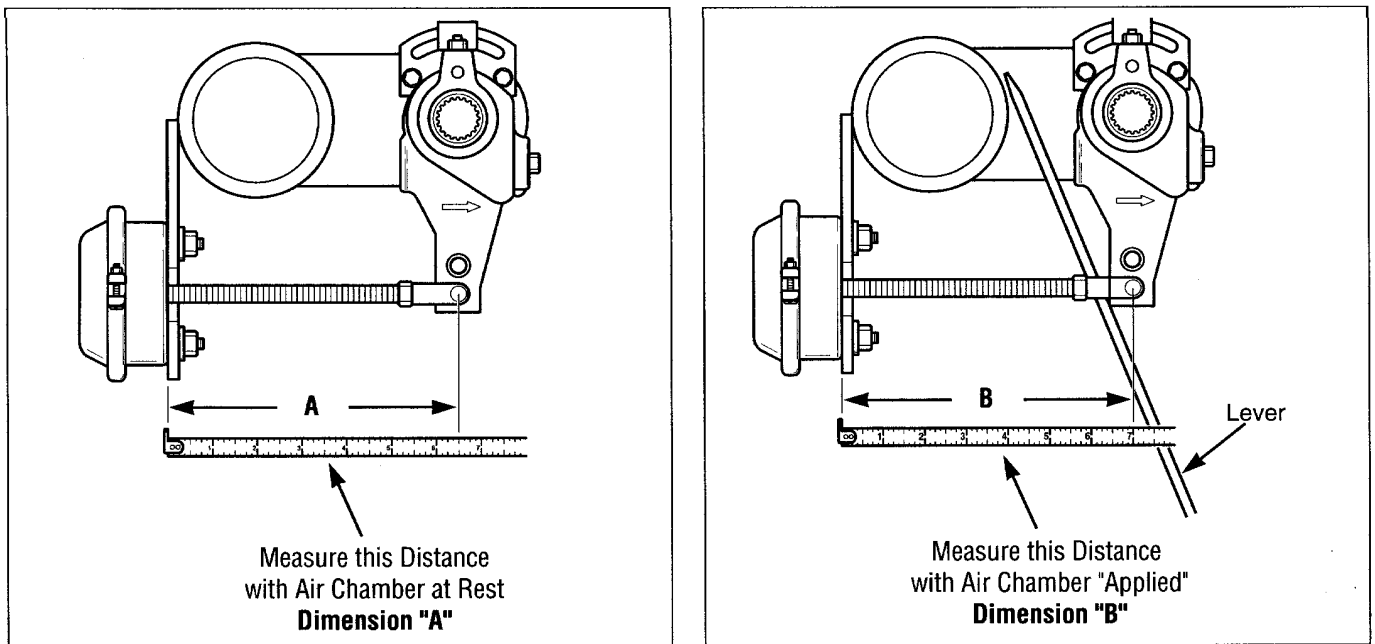

Figure 8-5 Adjust Slack Adjusters
Chock tires and release brakes. Measure the distance (A) with brakes released. See figure 8-5. Use a lever to move slack adjuster until brakes contact the drum and measure the distance (B). Subtract distance A from distance B. The result is the free stroke. Adjust slack adjuster so the free stroke is $\frac{3}{8}$ – $\frac{5}{8}$ inch on each slack adjuster.